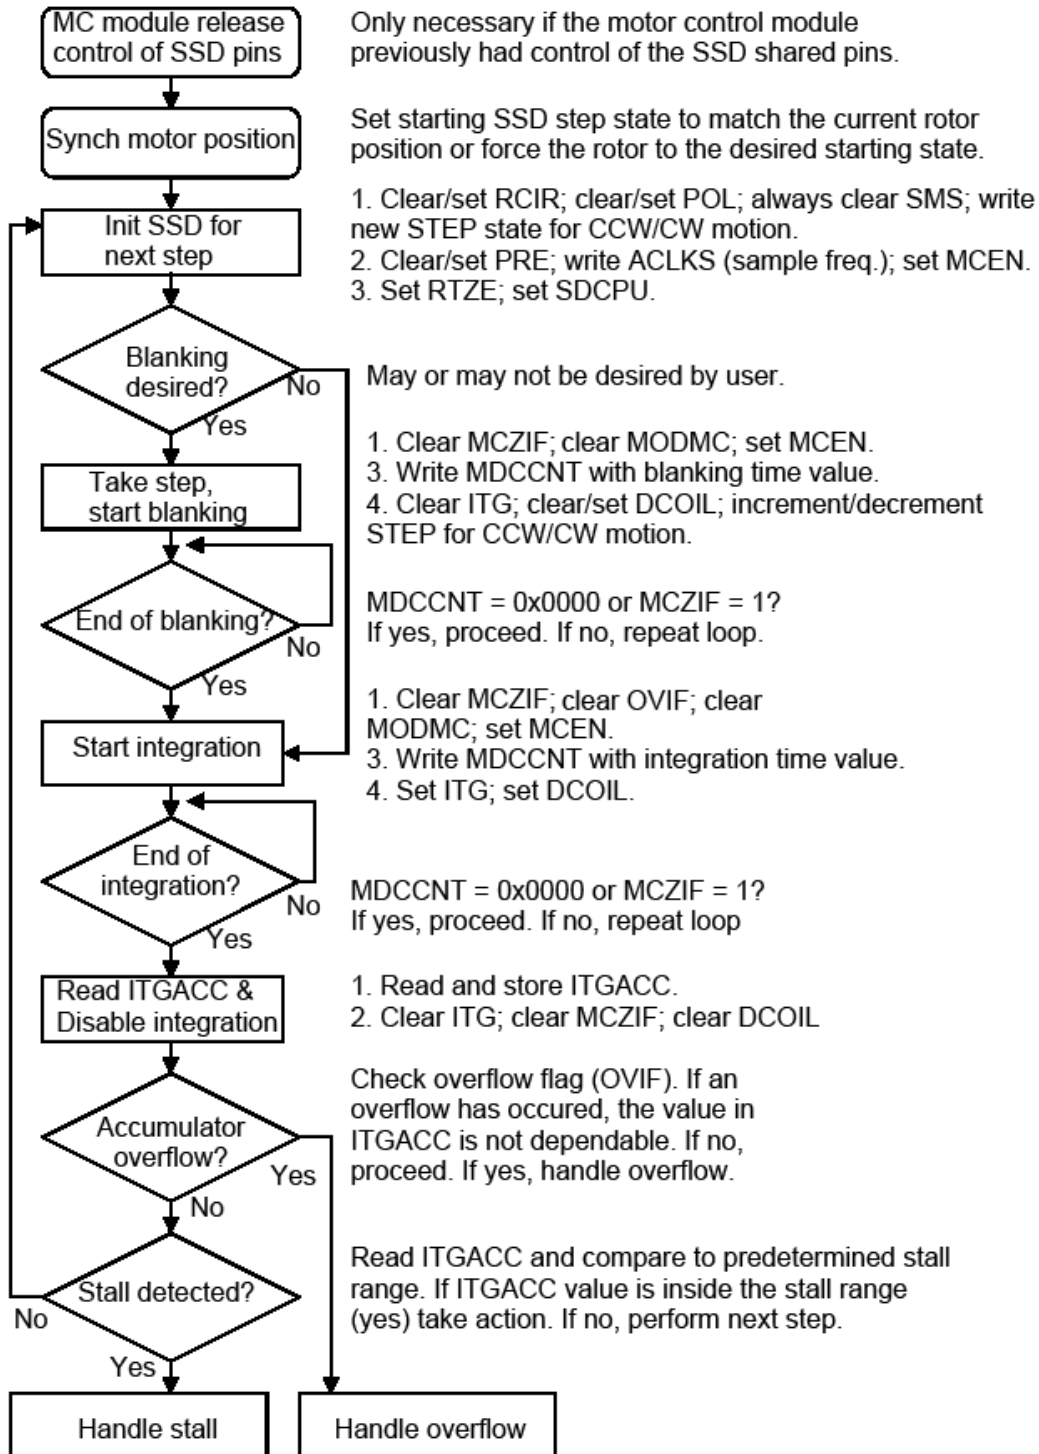
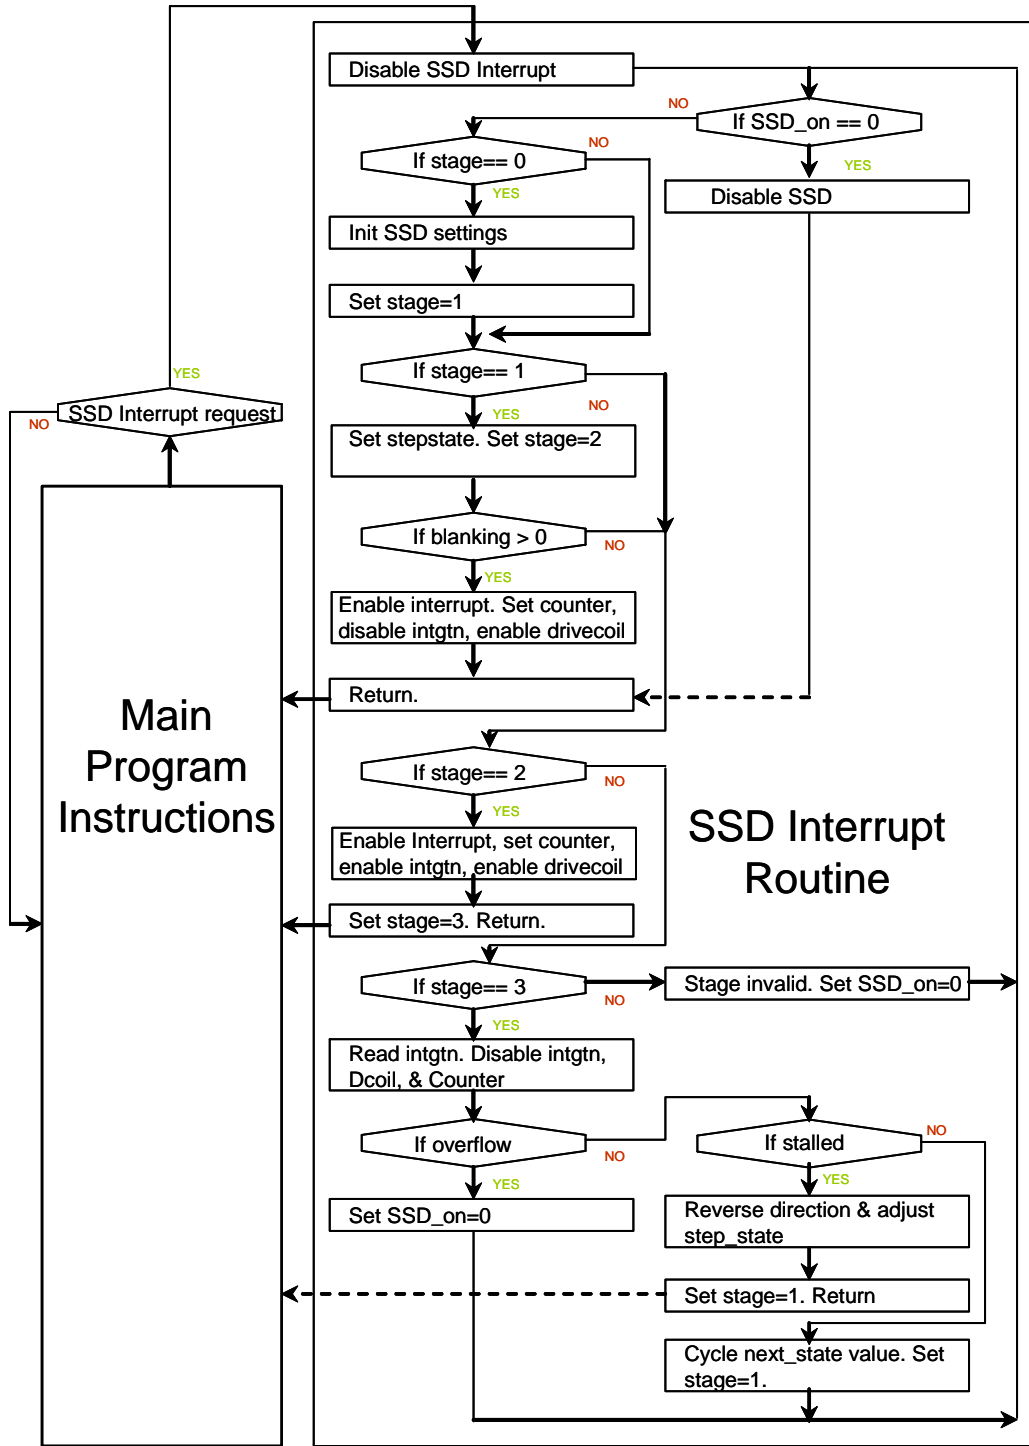

Figure 16. Integration and Stall Detection Flowchart
Figure 17. SSD CPU Interrupt Flow
The SSD module does not have a specific bit to enable or disable offset cancellation. By default, offset cancellation is active as long as the recommended programming sequence for enabling integration is achieved. The SSD block guide or chapter has a flowchart with a general recommended programming sequence. Figure 16 shows a more detailed flowchart. Other sequences are possible but not recommended.
Figure 16 and Figure 17 show how the flow of execution might occur in a simple system. Figure 16 illustrates an example flow where no interrupts are used. In this case, many CPU cycles may be wasted in support of the SSD module. This flow is simple, but provides less efficient use of the CPU's time. Refer to Section 15, "C Programming Example," for example code following the general flow of Figure 16. The code can also be found in AN3330SW on the Freescale website.
Figure 17 shows how CPU interrupts are used to drive the SSD module. This method of using interrupts to control the SSD module is more involved, but allows the service routine to entirely manage the SSD module. This provides more efficient use of CPU cycles and allow multiple interrupts to control multiple SSD modules. During a single step with integration, there are several times when the SSD module needs to be serviced. Because of this, the SSD service routine instructions are partitioned into stages. Each time the SSD interrupt is requested, the routine proceeds to the appropriate stage and performs the associated instructions. When complete, the routine returns control of the CPU to the general program. The code can also be found in AN3330SW.
This program was written in C for Freescale’s MC9S12HZ256 microcontroller and compiled with the CodeWarrior™ for HCS12(X) compiler. There is also a version for the MC9S12XHZ512. In sections that follow the flowchart provided in Figure 16, the comments are labeled to match. All relevant code is contained in one file, main.c, shown below. CodeWarrior projects of this program and for an interrupt version for the MC9S12HZ256 and MC9S12XHZ512 may be downloaded from Freescale’s website. The software is contained in the AN3330SW and can easily be migrated to be used on the MC9S12XHY microcontroller.